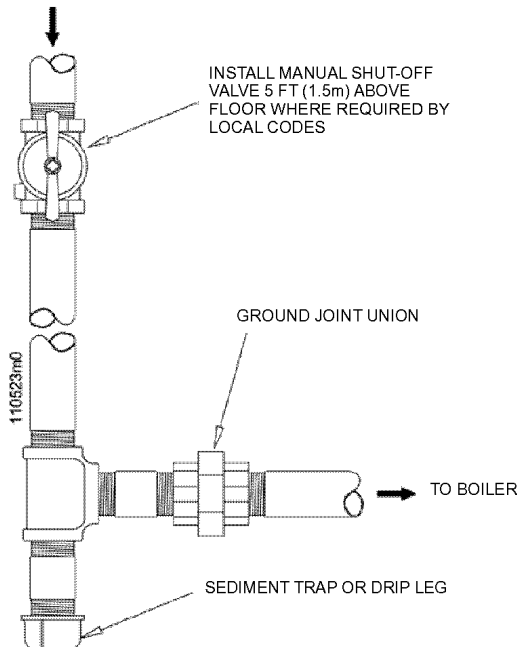

Figure 11-1 Gas supply piping
1. Refer to Figure 11-1 to pipe gas to the boiler.
2. Install sediment trap / drip leg. (see Figure 11-1).